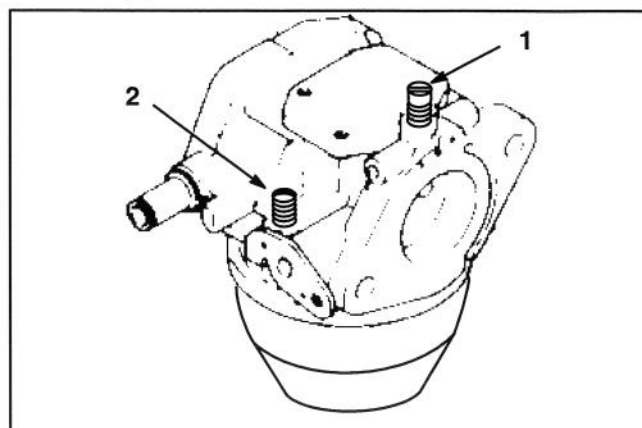

Figure 19
1. **Idle Fuel Adjusting Needle** (Fig. 19) - Close needle by gently rotating it clockwise.
2. Rotate - open - the needle 1 turn counterclockwise (Fig. 19).
4. **Idle Speed Setting** - Move the throttle control to SLOW setting. Set the idle speed to 1500 rpm \pm 75 RPM by turning the idle speed adjusting screw in or out (Fig. 19). Check speed with a tachometer.